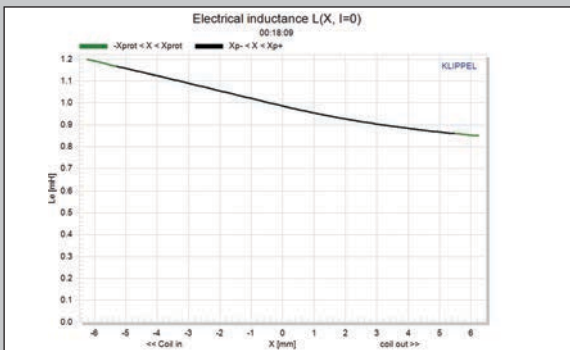

Figure 17: Klippel analyzer L(X) curve for the Tang Band W3-2052S
**Figure 17** shows the W3-2052S's inductance curve  $L_e(X)$ . Motor inductance will typically increase in the rear direction from the zero rest position and decrease in the forward direction as the voice coil moves out of the gap and has less pole coverage, which is what we see here. However, the inductive change is a minimal 0.15 mH from the rest position to  $X_{MAX}$  in either direction.